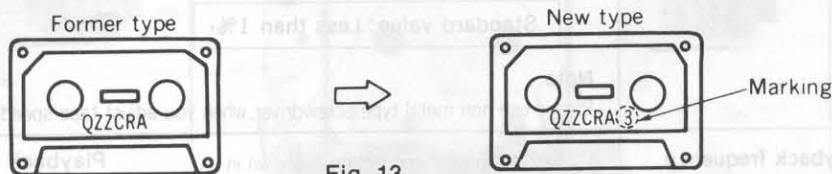

Fig. 13
- The new type of QZZCRA is marked as shown in fig. 13.